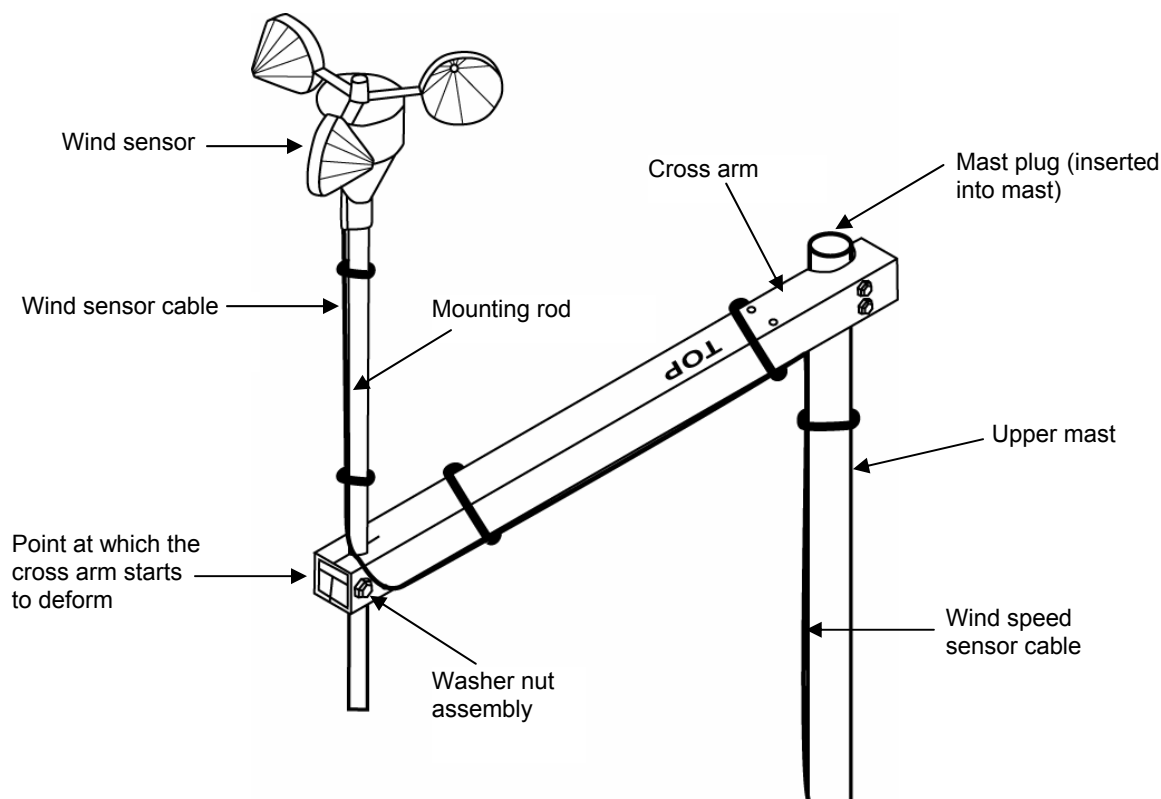

Figure 18: Wind sensor attachment
1. Insert the end of the black mounting rod through the top of the cross arm (see Figure 18).